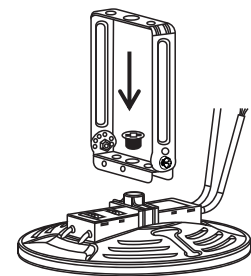
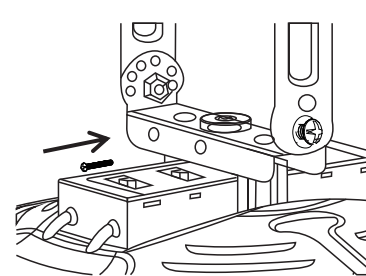

FIG 2.1
FIG 2.2
1. Use 1/2NPS screws to lock the ceiling bracket and lamps (FIG 2.1), then tighten the side lock screw (FIG 2.2);